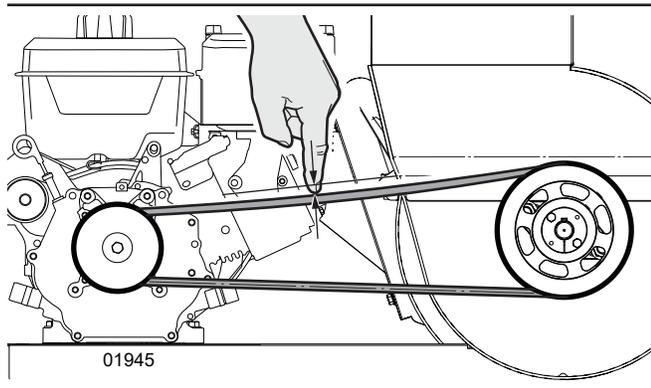

Fig. 26—Check the drive-belt tension
2. Use your hand to check the drive-belt deflection. Press on the top, center of the drive belt (*Fig. 26*).